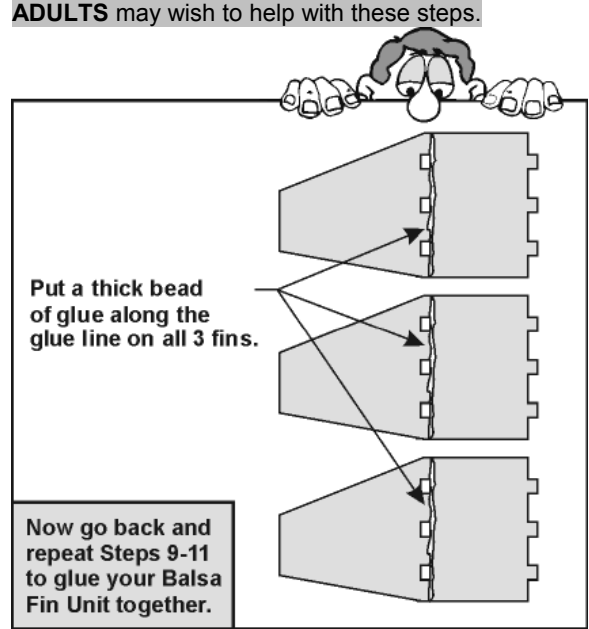

Figure 12
- 12. That was a good practice! Now that you are familiar with these steps, you will take your Fin Unit apart and reassemble it, but with **GLUE** this time! **Figure 12** shows you how to apply the glue to the glue line on all 3 fins. Once you have done this, go back and repeat Steps 9 – 11.